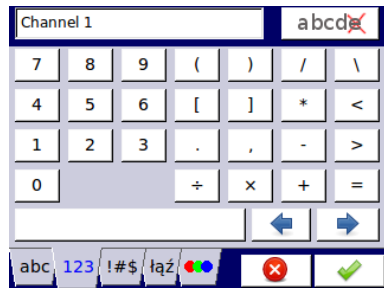

Fig. 7.2. Text editor – numbers
- numbers and arithmetic signs, see **Fig. 7.2**,